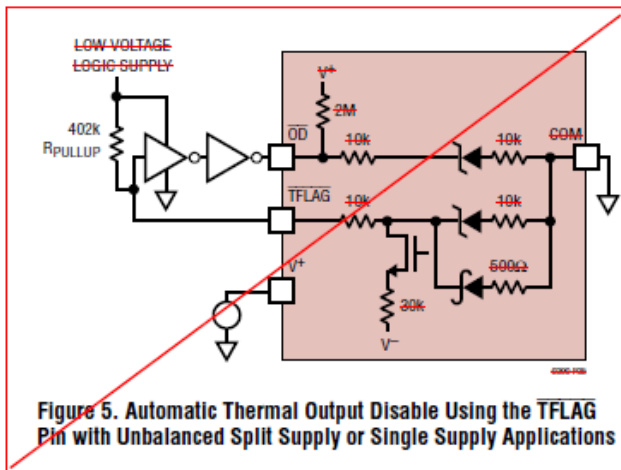

Figure 5. Automatic Thermal Output Disable Using the TFLAG Pin with Unbalanced Split Supply or Single Supply Applications
- ~~In the case where the COM pin is grounded, but the  $V^-$  supply is within  $0V$  and  $-3V$  of ground, a logic buffer must be used to force  $\overline{OD}$  to a logic low as shown in Figure 5. The pullup resistor ( $R_{PULLUP}$ ) of Figure 5 must be chosen large enough to guarantee a logic low for the logic buffer. For most CMOS, this requires at least  $402k$  of pullup resistance. Alternatively, the logic buffer is not needed if you float the COM pin. With COM floating, you may simply tie  $\overline{OD}$  directly to  $\overline{TFLAG}$  for proper thermal shutdown operation.~~